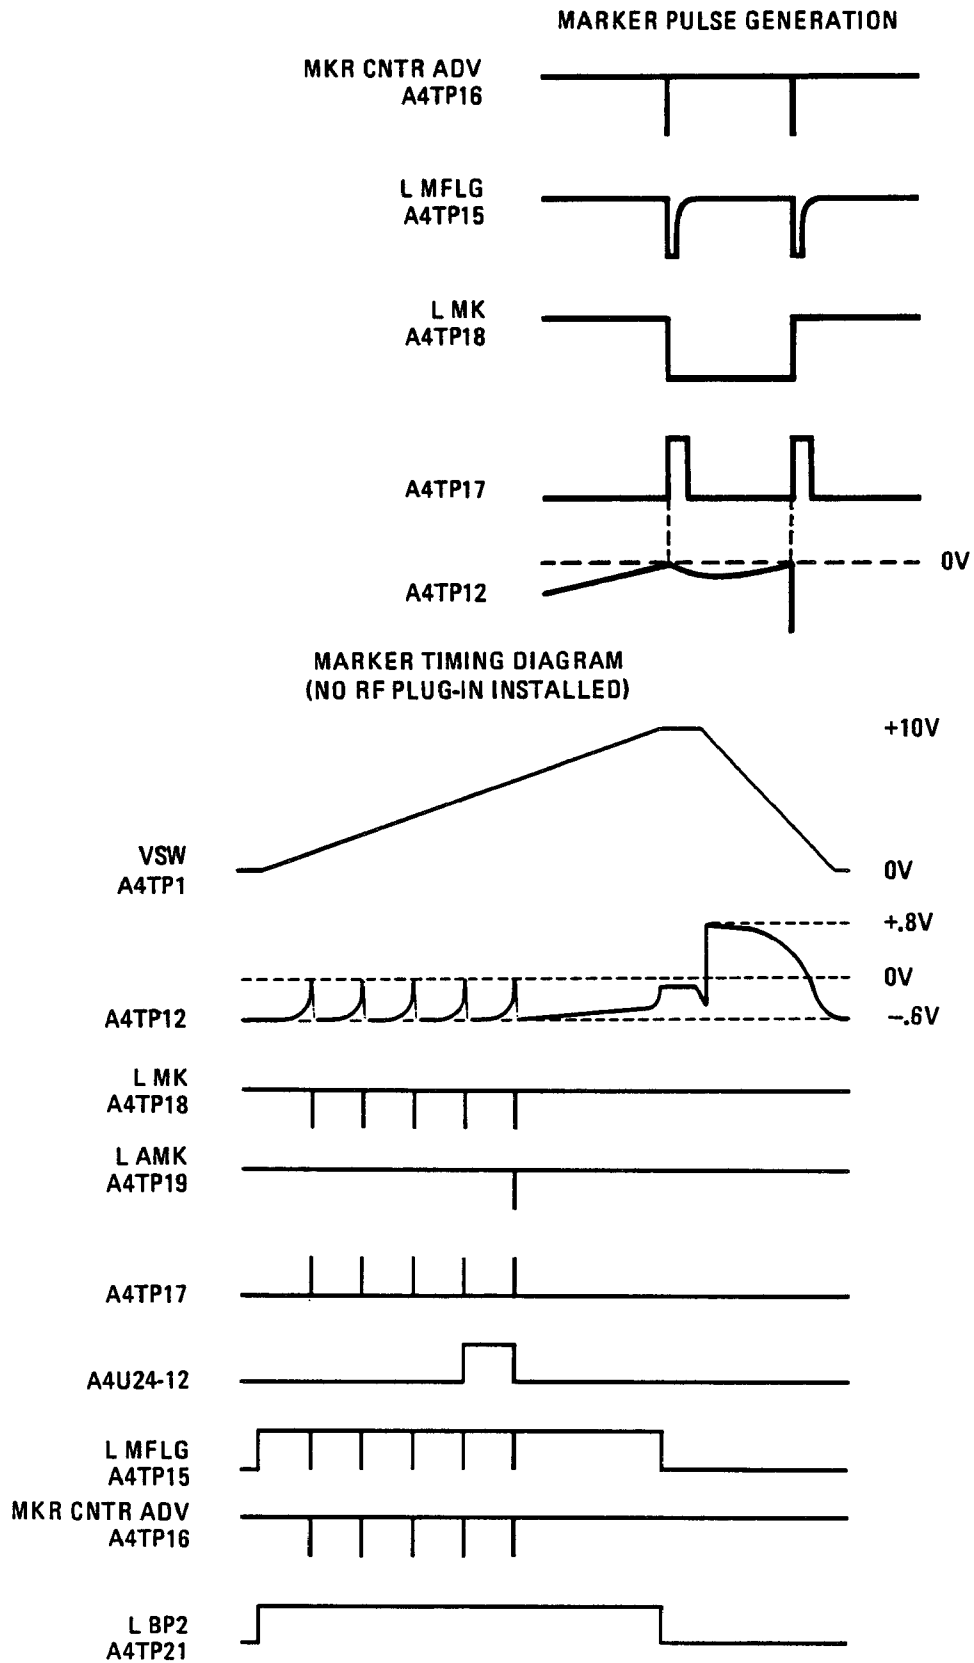

Figure 8-29. Marker Timing Diagrams
This cycle continues through all five markers. After the fifth marker pulse is generated, the marker counter is set to the hexadecimal value A. The RAM is set to hexadecimal address A, which contains the marker terminator byte. This terminator byte programs the marker DAC circuit to sink more current than can be provided from VRAMP. The input to comparator U11 can not cross zero. This ensures that no more marker pulses are generated. The waveform at TP12, as well as other test points, are provided in Figure 8-29.
**Active Marker** — The active marker is determined as follows. During retrace, L EN3 clocks the active marker leading edge marker RAM address into data latch U17B. During the sweep, comparator U22 compares the marker counter output with the active marker address latched in U17B. When the two values are equal, the U22 output goes high. When U24B is clocked for the marker leading edge the Low Active Marker (L AMK) output goes low. When the marker counter is incremented, the U22 output goes low. Therefore, when U24B is clocked for the marker trailing edge, the L AMK output returns high. Refer to Figure 8-29 for timing relationship.
**NOTE:** In Figure 8-29, marker M5 is the active marker (last marker entered).
Verify the waveforms located in Figure 8-29.